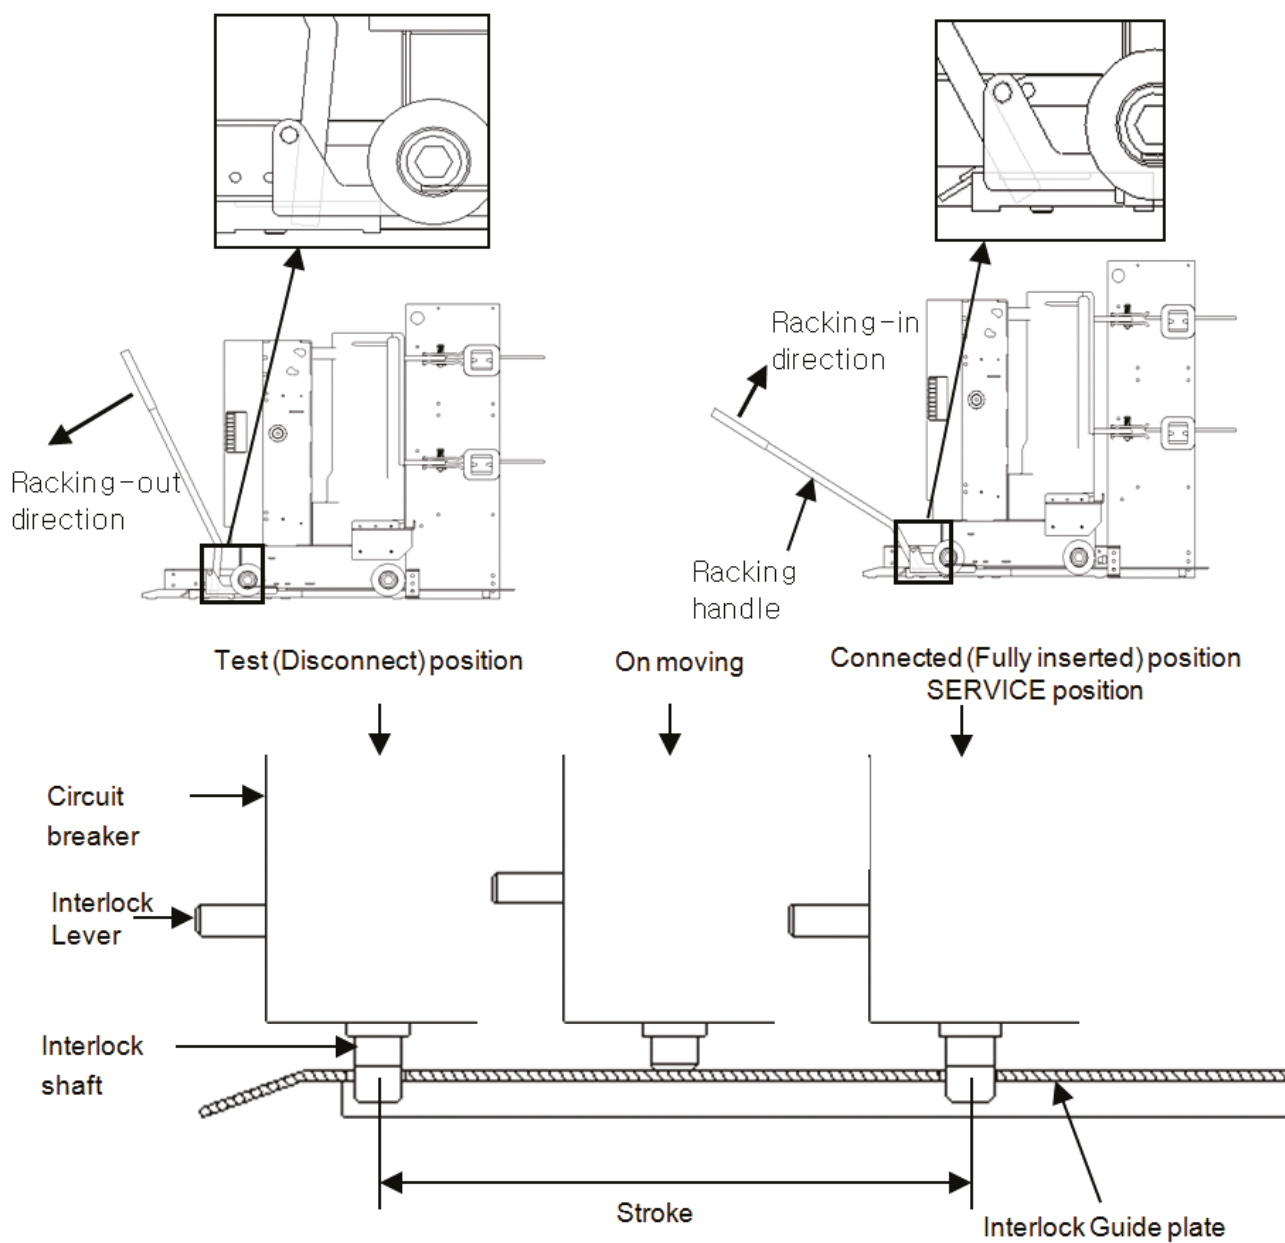

Figure 7 - Racking-in/out operation.
- ① Remove the bracket for fixing VCB before moving.
- ② Push "OFF" button (red) on the front of the circuit breaker and then check if contact indicator shows "OFF".
- ③ After both side wheels of the circuit breaker are guided in both rails of cradle, push the circuit breaker gently until the Test position. (Figure 7)
- ④ Raise Interlock lever located on the front of circuit breaker upward sufficiently to remove Interlock pin from the hole of Interlock plate.
- ⑤ When Interlock lever is raised, push the circuit breaker gently until the circuit breaker stops and your hands can be off from Interlock lever during moving.
- ⑥ Insert the racking handle into racking guide first and then put the tip of racking handle into the rectangular hole on Interlock plate.
- ⑦ Push and insert the circuit breaker to Service position like Figure 7.
- ⑧ At this position, push and insert the circuit breaker until an Interlock lever on the front of circuit breaker drops to the lowest level and at the same time the Interlock pin will be into the hole on interlock plate. It is the complete Service position. (Figure 7)
- ① Push "OFF" button of the circuit breaker and then check if contact indicator shows "OFF".
- ② Insert the racking handle into racking guide first and then put the tip of racking handle into the rectangular hole on Interlock plate.
- ③ Pull this Interlock lever up and disconnect the Interlock pin from the hole of interlock plate.
- ④ At this status, pull out the racking handle for the direction described in Figure 7 and your hands can be off from Interlock lever during moving.
- ⑤ Pull out the circuit breaker until the breaker is out from the cradle. Then, the Interlock lever will be moved to the hole on the front of Interlock plate and the Interlock pin will be inserted inside this hole. It is Test position. (Figure 7).